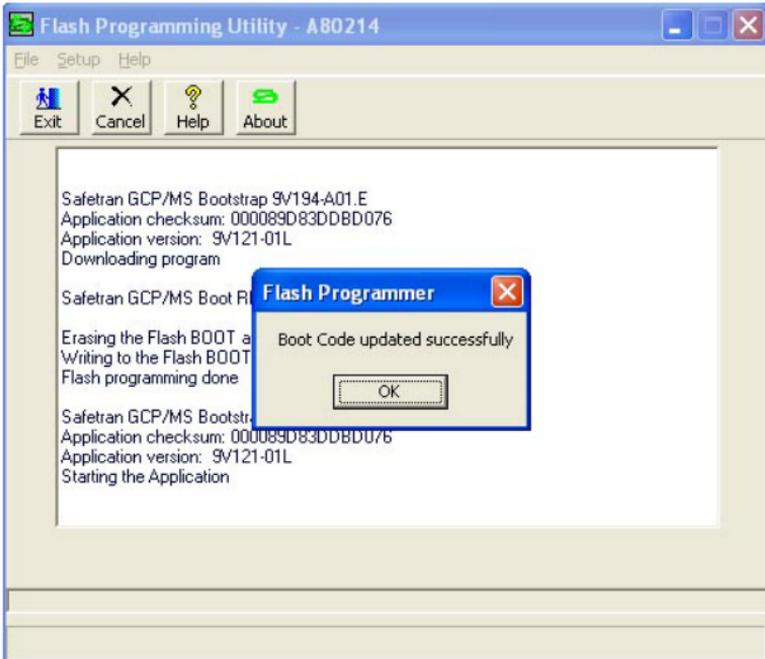

Figure 6:
7. The update is complete when an update success dialog appears (See Figure 6).